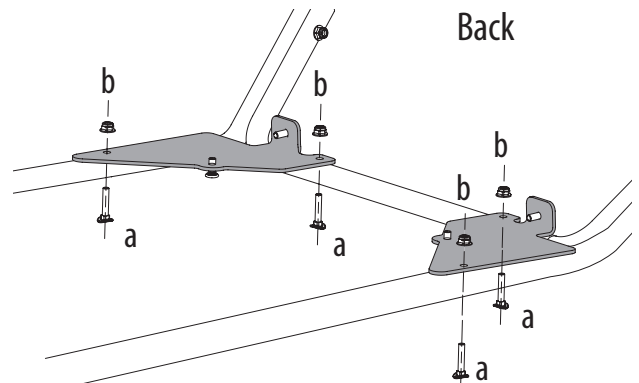

Figure 3
1. Place the two triangular frame brackets, (Item #12) and (Item #13), on each side of the assembled frame as shown in Figure 3 so that the holes on the frame align with the holes in the brackets, and the flanges of the brackets are aligned with the bend of the tubes.
2. Place four carriage bolts 1.5" (a) (Item #3) into the indicated holes as shown in Figure 3, and screw four hex nuts (b) (Item #4) onto the bolts.